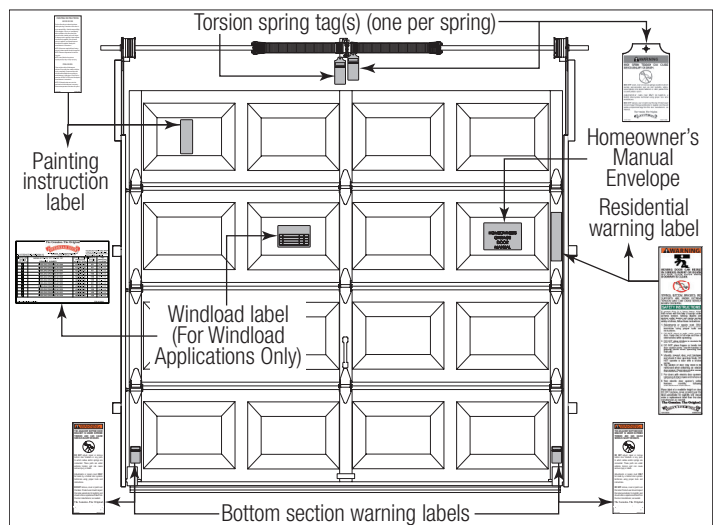

Figure 59
**IMPORTANT:** Using the illustration, attach the appropriate labels to the appropriate location on the section. See Figure 59. If any labels are missing, worn or damaged, call your Overhead Ribbon Distributor for replacement.